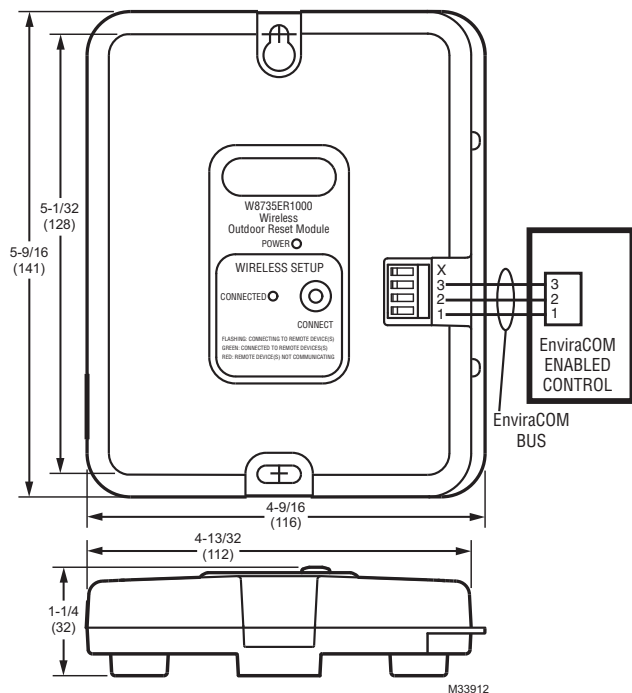

Fig. 1. W8735ER Wireless Outdoor Reset Module wiring diagram.
3. Wire the 1, 2, and 3 terminals on the Outdoor Reset Module to the 1, 2, and 3 terminals on the EnviraCOM™ enabled thermostat (if available), Aquastat, Integrated Burner Control, SOLA, or anywhere on the bus where access to the EnviraCOM bus is available and convenient. See Fig. 1.